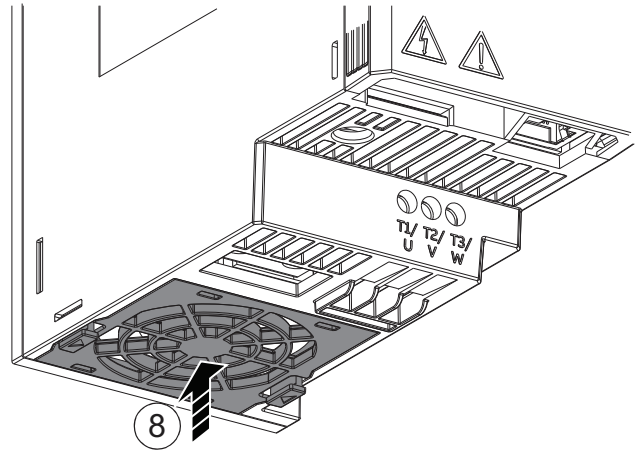

Fig. 16 — Place Fan Cover Back into Drive
8. Carefully put the fan cover into position in the drive. Make sure that the fan power cable is routed correctly. Push the cover to lock into position. (See Fig. 16.)